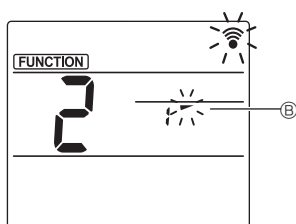

Fig. 3-3
- ③ Setting the vane angle (Fig. 3-3)